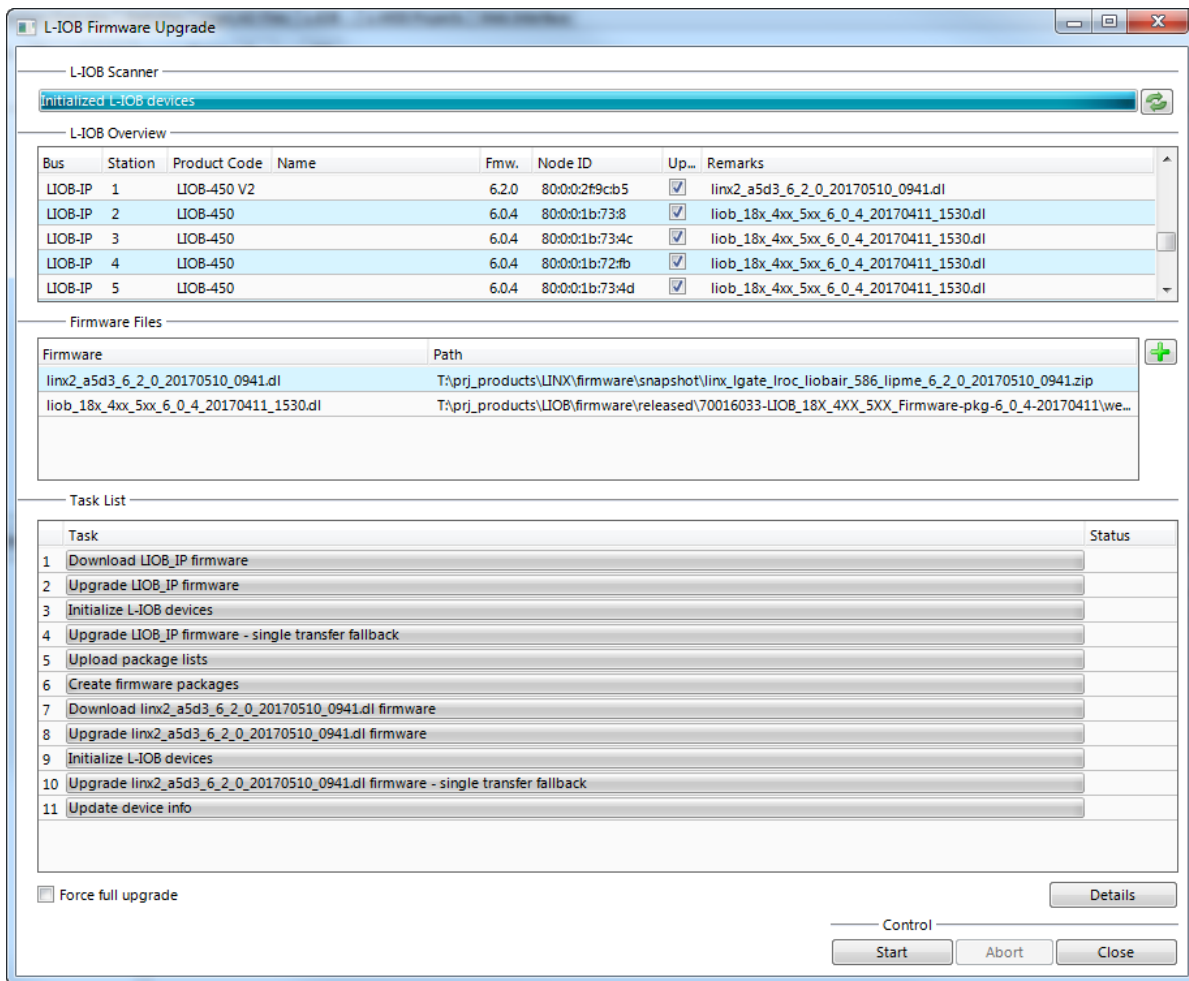

Figure 234: L-IOB Firmware Update dialog of the Configurator
3. This opens the Firmware Upgrade dialog as shown in Figure 234 and starts the detection of all connected L-IOB devices. Using the **Upgrade** checkbox in the **L-IOB Overview** list, it is possible to choose which devices shall be upgraded.